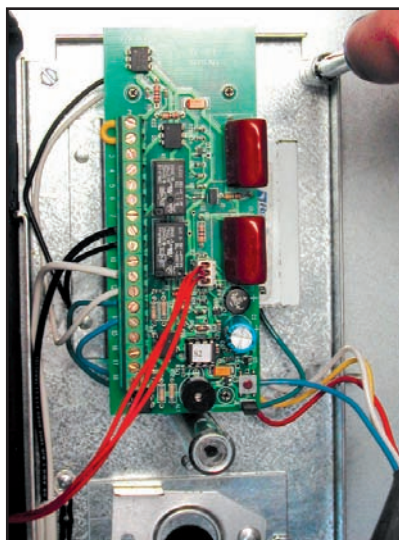

Figure 15
6. Mount the unit base to the duct using the four mounting screws provided. (See Figure 15)